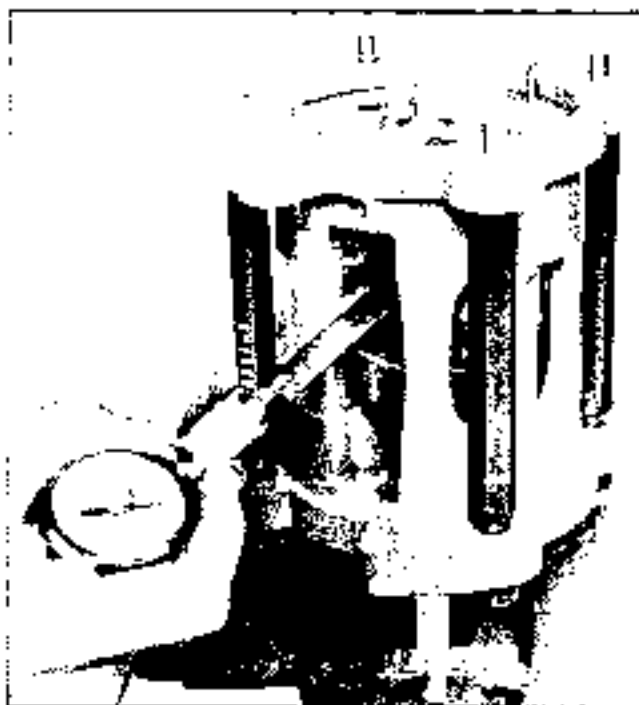

Fig. 1A-36 Measuring for Proper Thrust Race
d. Select from stock a numbered thrust race that corresponds to dial indicator reading (Fig. 1A-37).